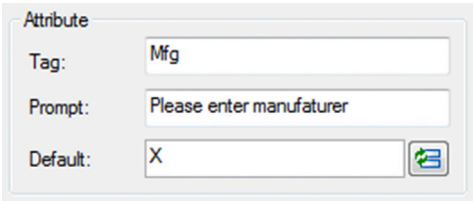

FIGURE 18.4 Attribute fields.
- For Default, type in X (this is the generic placeholder), as seen in Fig. 18.4.